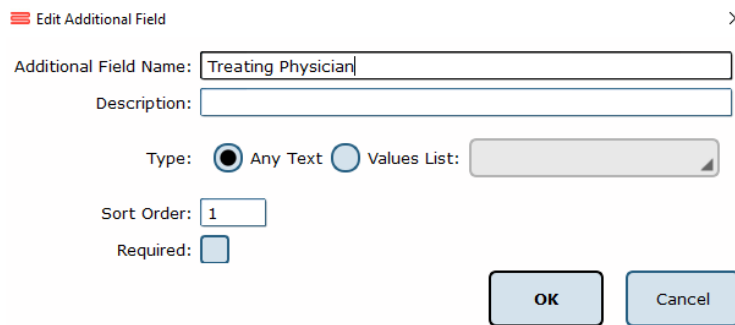

Figure 11: Edit Field Options Menu
**Values Editor:** Operator-created lists are generated and saved through the Values Editor. When clicked, a new window will appear that lists the currently saved lists for additional fields (located on the left). When a list is selected on the left, the contents of the list are displayed on the right. A full view of the Value Editor is shown in Figure 11 on the following page.